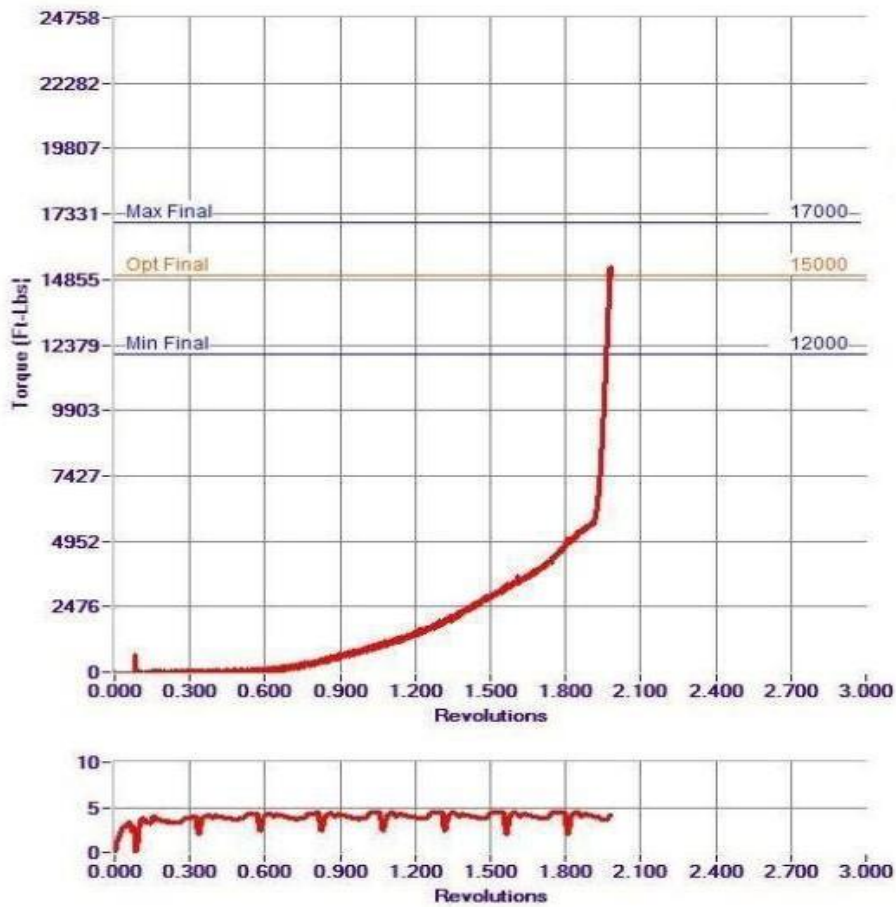

Figure 5: Example of a Proper Make-up Graph & Shoulder Torque
- 4.18 The shoulder torque is the point in which the pin noses make contact. This is indicated by a dramatic spike in the torque-turn graph and shall be clearly visible at a minimum of 5% of make-up torque and at a maximum of 90% of make-up torque as shown in Figures 5 & 6. If the shoulder torque is outside of these specifications, break out and inspect the pin and coupling.